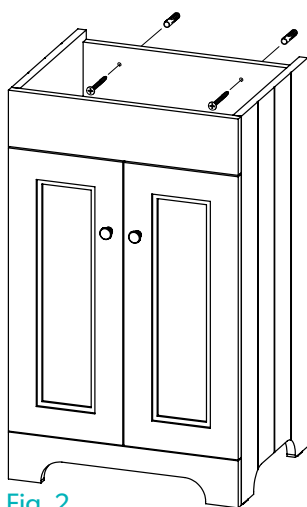

Fig. 2
3. Measure the positions of the two fixing holes in the back of the unit, carefully mark the position of the holes onto the wall using a soft pencil. (Fig. 2).